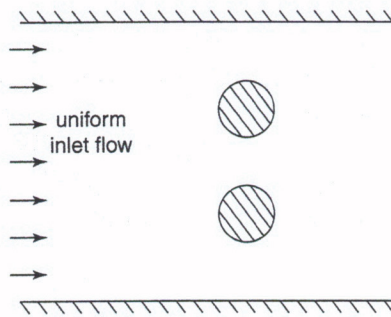

Figure 10.16
5. For the two-dimensional flow domain in Figure 10.16, indicate the regions where viscous effects are important and indicate the regions where inertial effects are expected to be important. The flow is rapid (i.e., Re is high) and the fluid is incompressible. The hashed regions are solid walls or obstacles.